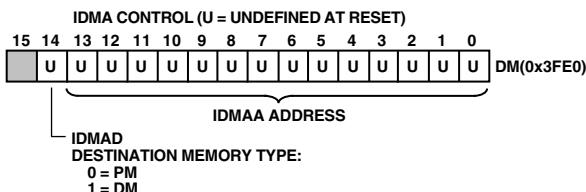

Figure 17. IDMA Control/OVLAY Registers
Through the IDMAA register, the DSP can also specify the starting address and data format for DMA operation. Asserting the IDMA port select (IS) and address latch enable (IAL) directs the AD73460 to write the address onto the IAD0-14 bus into the IDMA Control Register. If IAD[15] is set to 0, IDMA latches the address. The IDMAA register, shown below, is memory mapped at address DM (0x3FE0). Note that the latched address (IDMAA) cannot be read back by the host. The IDMA OVLAY register is memory mapped at address DM (0x3FE7). See Figure 17 for more information on IDMA and DMA memory maps.